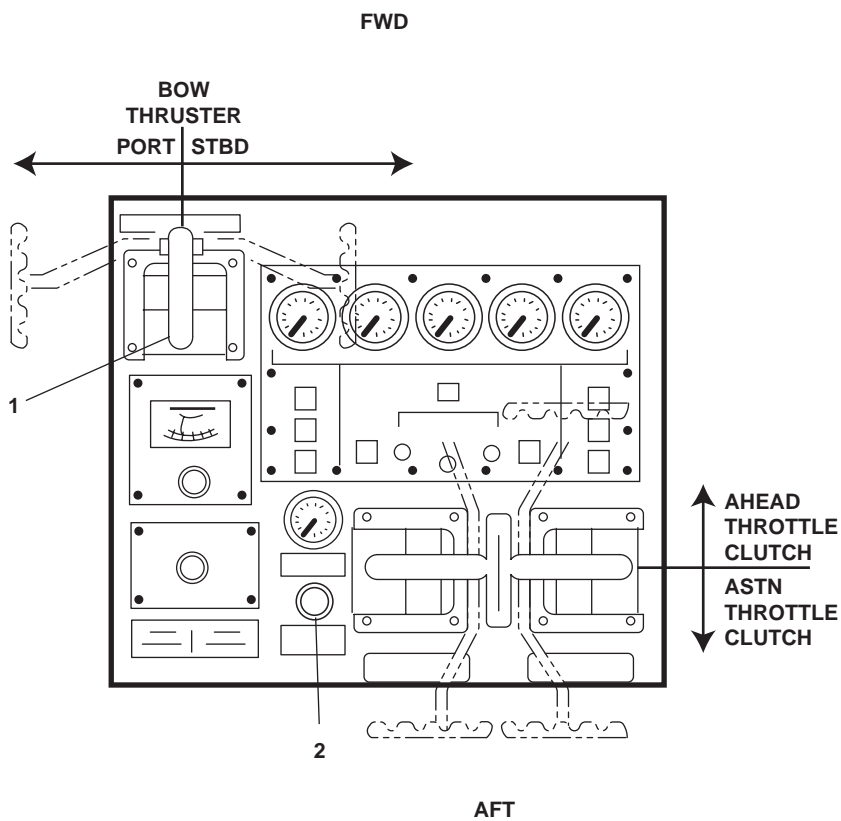

Figure 3. Auxiliary Control Station
- (1) Ensure that the bow thruster engine throttle control lever (figure 3, item 1) is straight up in the NEUTRAL (center) position.
- (2) Ensure that the COMMAND TRANSFER plunger (figure 3, item 2) is down in the disengaged position.